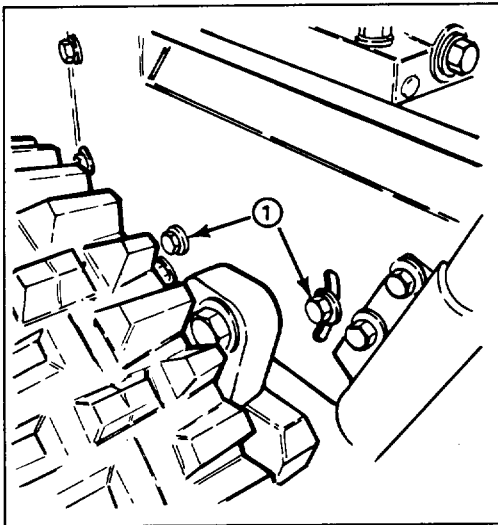

Figure 29
3. Loosen (4) flange head capscrews (2 each side) securing transmission frame to engine frame (Fig. 29).